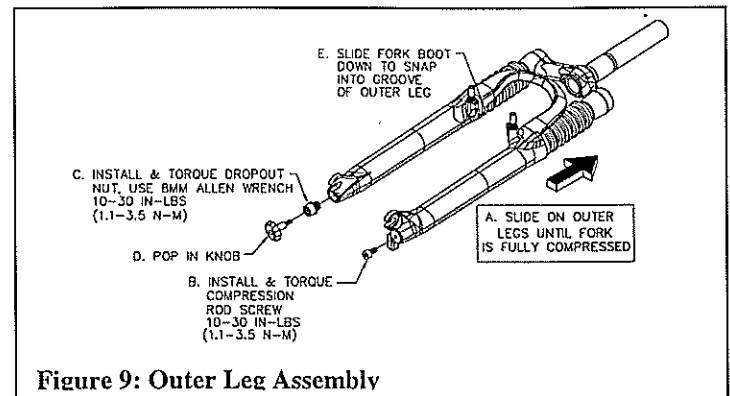

Figure 9: Outer Leg Assembly
OUTER LEG REASSEMBLY FIGURE 9:
4. Install outer leg assembly, see Figure 9. Add 5 WT Maxima or equivalent oil. Do not over fill. Check oil level, see Figure 8.
8. Install outer leg assembly, see Figure 9. Add 5 WT Maxima or equivalent oil. Do not over fill. Check oil level, see Figure 8.